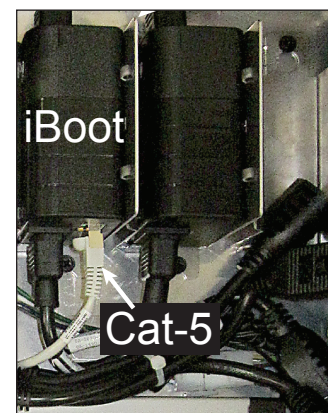

Figure 20: Individual iBoot
3. If applicable, disconnect the Cat-5 cable from the iBoot. Refer to **Figure 20**.